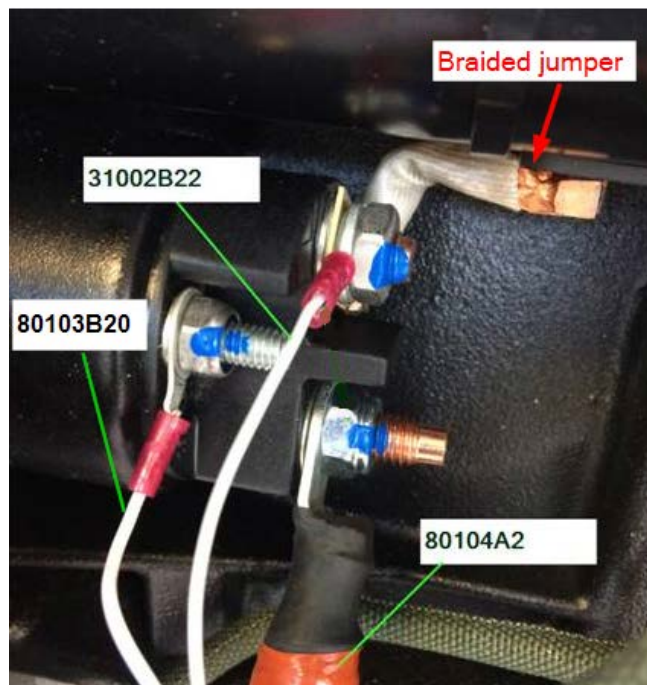

Figure 1 - Correct starter wiring connection.
3. Inspect the starter wiring for correct connection. Refer to Figure 1.
4. If the wire 31002B22 is connected to the same attachment as the braided jumper as shown in Figure 1, that means that the connection is correct and you can proceed to step 8.
6. Remove wire 31002B22 from the incorrect location, and reinstall it in the correct location. Refer to Figure 1.